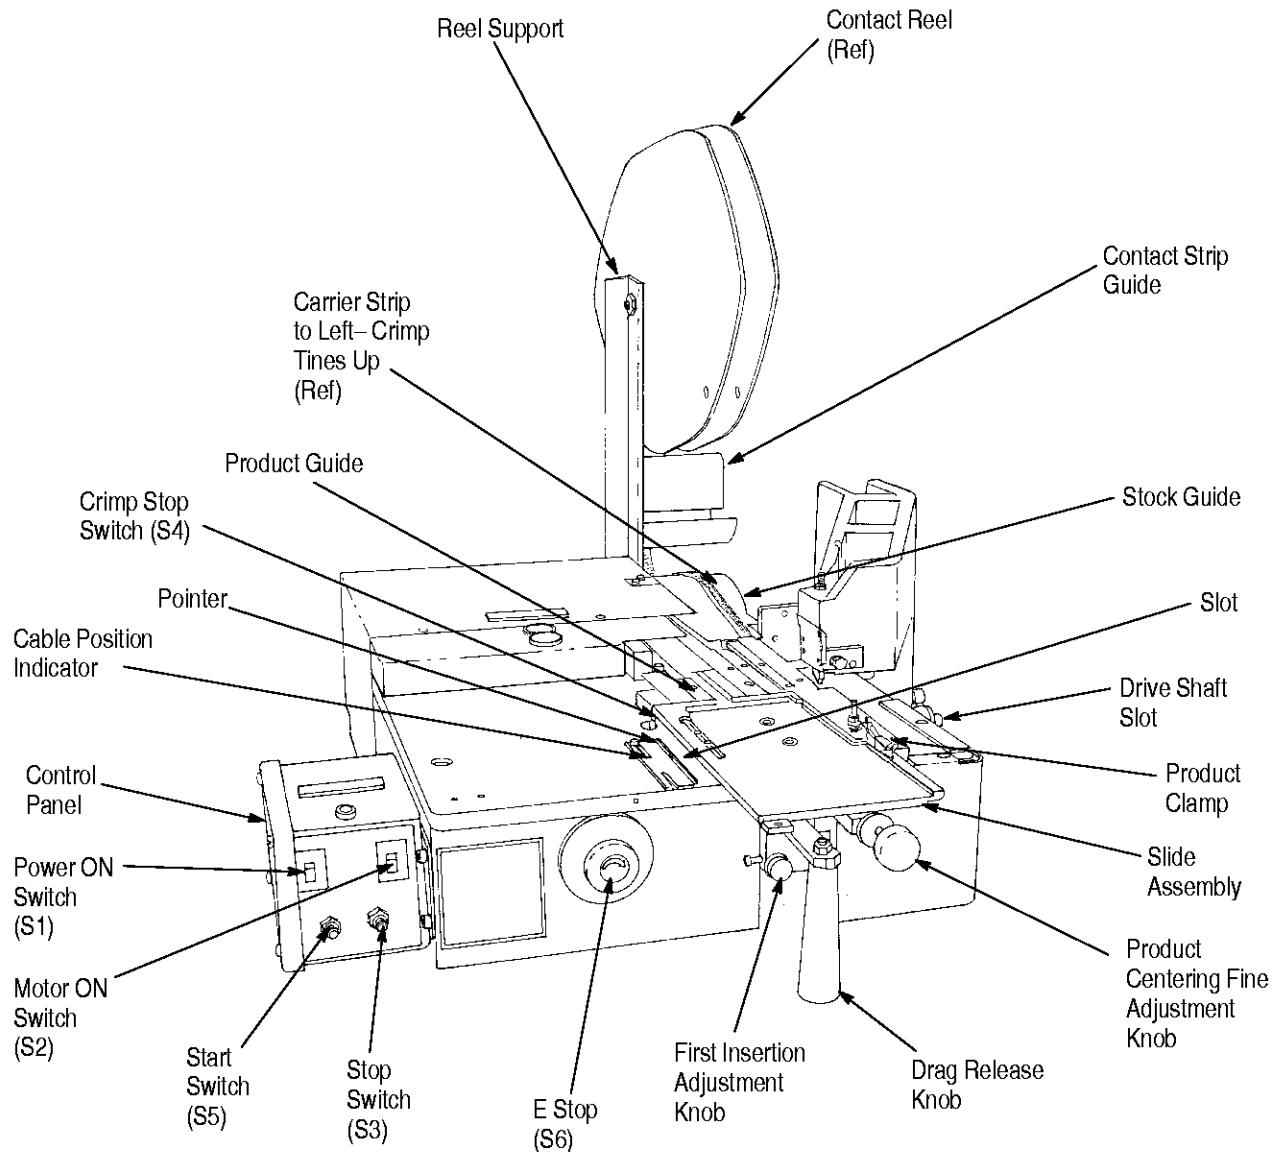

Figure 3
### 2.1. Physical Description (Figure 3)
The terminating machine is operated using the power supply switches on the control panel (see Figure 3). The control panel consists of a PWR ON switch (S1) with an internal indicator light (DS1), a MOTOR ON switch (S2) with an internal indicator light (DS2), a START switch (S5), and an emergency STOP switch (S3). A circuit breaker (CB) is located on top of the control panel.
The reel support holds the reel of contacts during the crimping operation. The contact strip rotates off the contact reel from the front, feeds around the back of the contact strip guide, and enters the strip guide tooling with the crimp tines facing upward and the carrier strips positioned toward the reel support. See Figure 3.
3. Install reel support onto back of machine (See Figure 3).